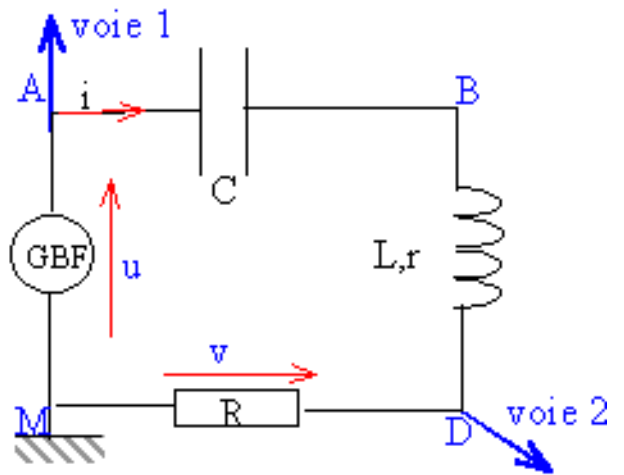

Figure 6.6 : series RLC circuit
A series RLC circuit is a foundational electrical configuration consisting of a resistor (R), an inductor (L), and a capacitor (C) connected sequentially in a single current loop. Driven by a sinusoidal alternating voltage source, this circuit is characterized by a single, uniform current $i(t)$ flowing through all components at any given instant (Figure 6.6). According to Kirchhoff's Voltage Law (KVL),